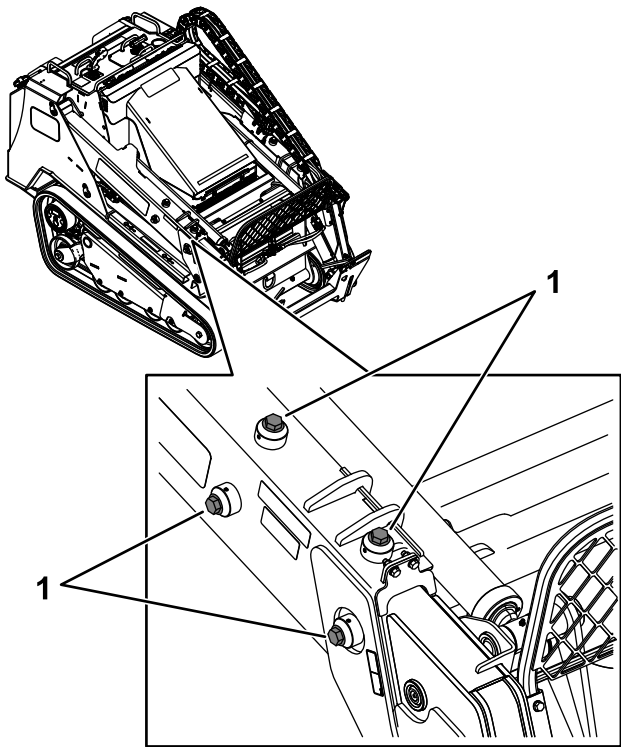

Figure 83
3. On each loader arm, loosen the setscrew on the 4 adjustment screws (**Figure 83**).